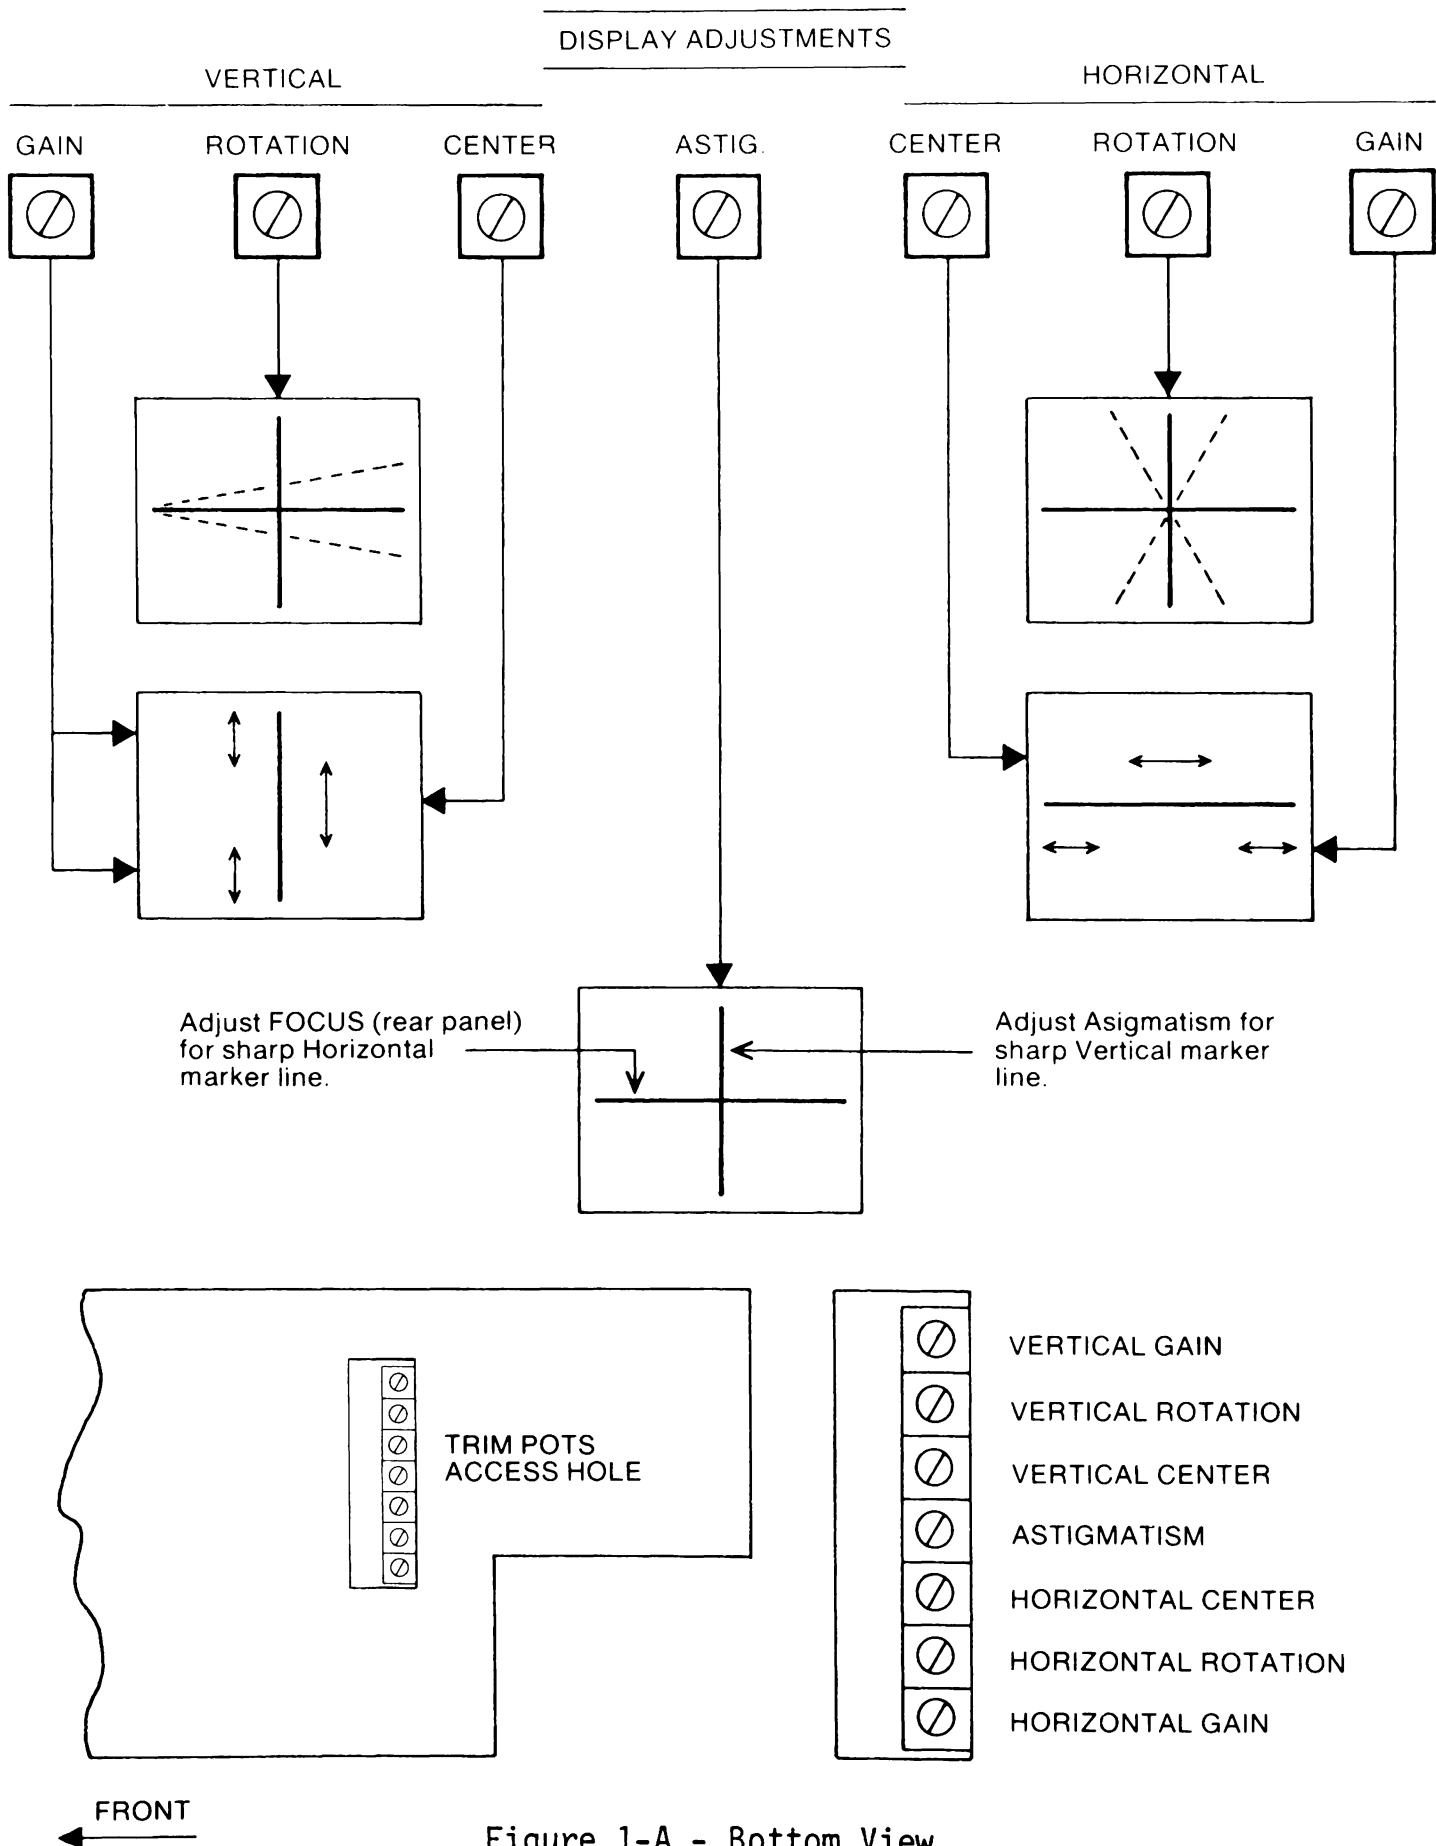

Figure 1-A - Bottom View
2. Apply square wave to the (+) input BNC using the Input Capacitance network illustrated in Figure 1.
2. Apply square wave to the (-) input BNC using the Input Capacitance network illustrated in Figure 1.